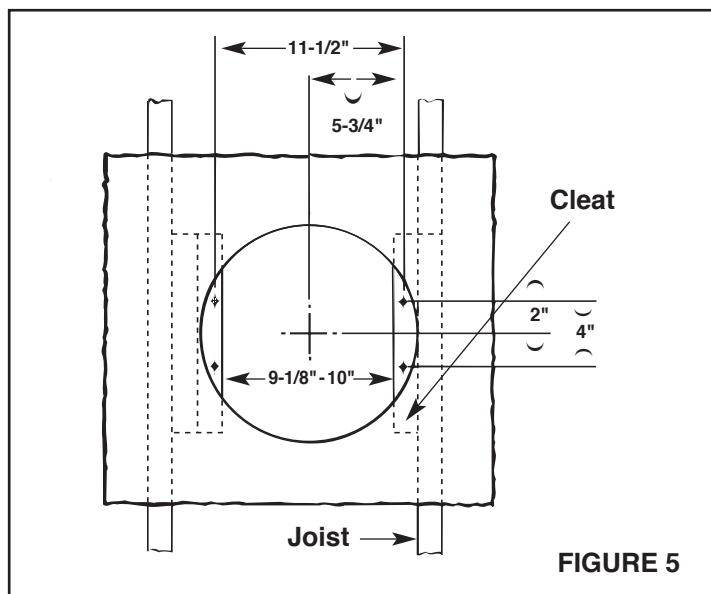

FIGURE 5
7. Refer to Figure 5. Install 2 x 4 cleats to both ceiling joists. In some cases it may be necessary to use more than a single cleat on one side. The distance between cleats must be at least 9 $\frac{1}{8}$ " but not more than 10".